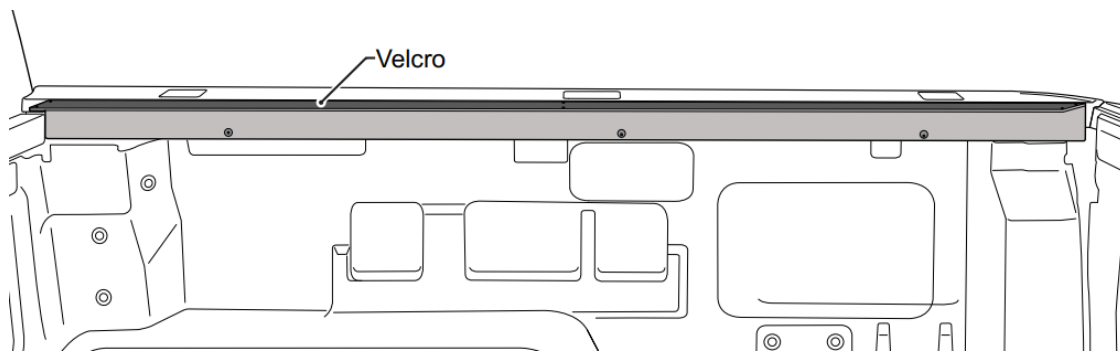

Figure 2
- b. Attach side rail (Angle notch at the rear) with the bolts , spacers , nuts and washer provided in the installation kit, using 4mm hex head and adjustable spanner. *See Figure 2*